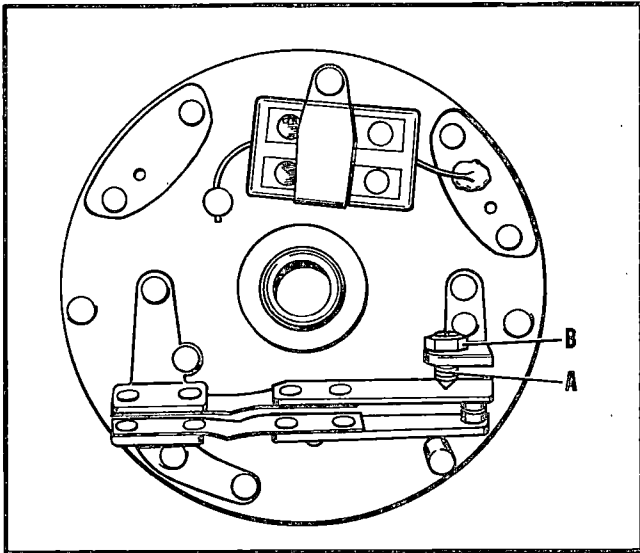

Figure 12. Drive Motor Governor Adjustment
To adjust motor speed, loosen adjustment nut (B), figure 12, on the governor. Turn adjustment screw (A) clockwise to increase speed or counterclockwise to decrease speed. Tighten nut (B) securely after adjustment has been made. Turn switch to OFF position.
d. Disconnect motor plug, and install motor (20) to mechanism plate with four screws (21), lock washers